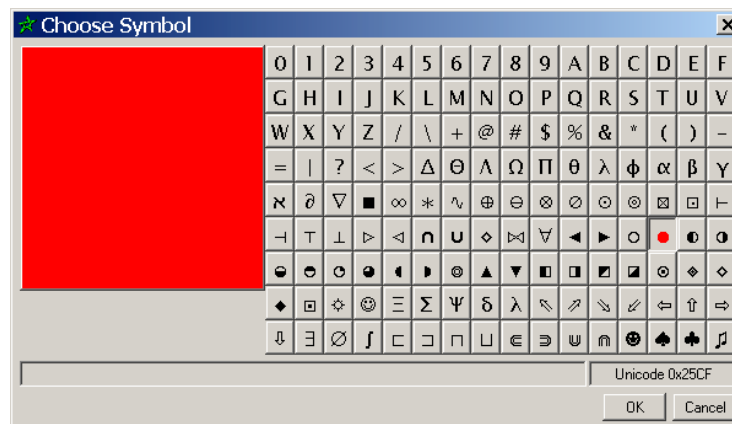

Figure 16-3. Choose Symbol Dialog
- STEP 1:** Right-click the symbol for the plugged tubes' entry under the **SYM** column in the legend. As shown in Figure 16-3, the **Choose Symbol** dialog appears.